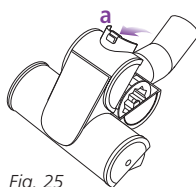

Fig. 25
- 1 Slide the locking latch (a) forward and gently tilt brush housing upward to open. (Fig. 25)